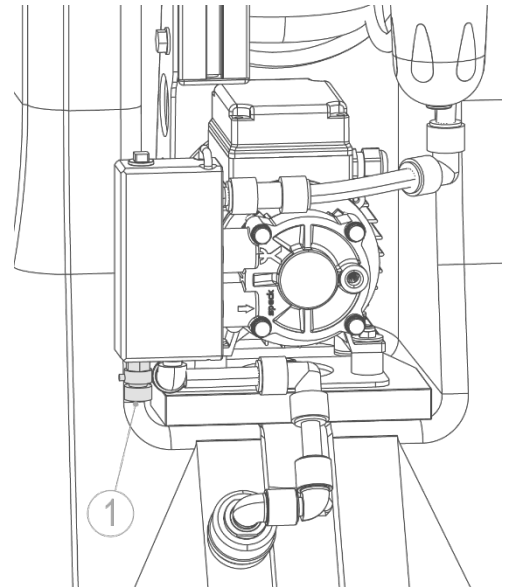

Fig. E-4: Pressure switch pressure booster
- Connect the plug of the pressure switch (refer to fig. E-4, no. 1) to the pressure switch – the pressure booster pump starts to deliver. In order to vent the connecting line of the reverse osmosis system (on-site piping), slightly loosen the union nut until the air has escaped.